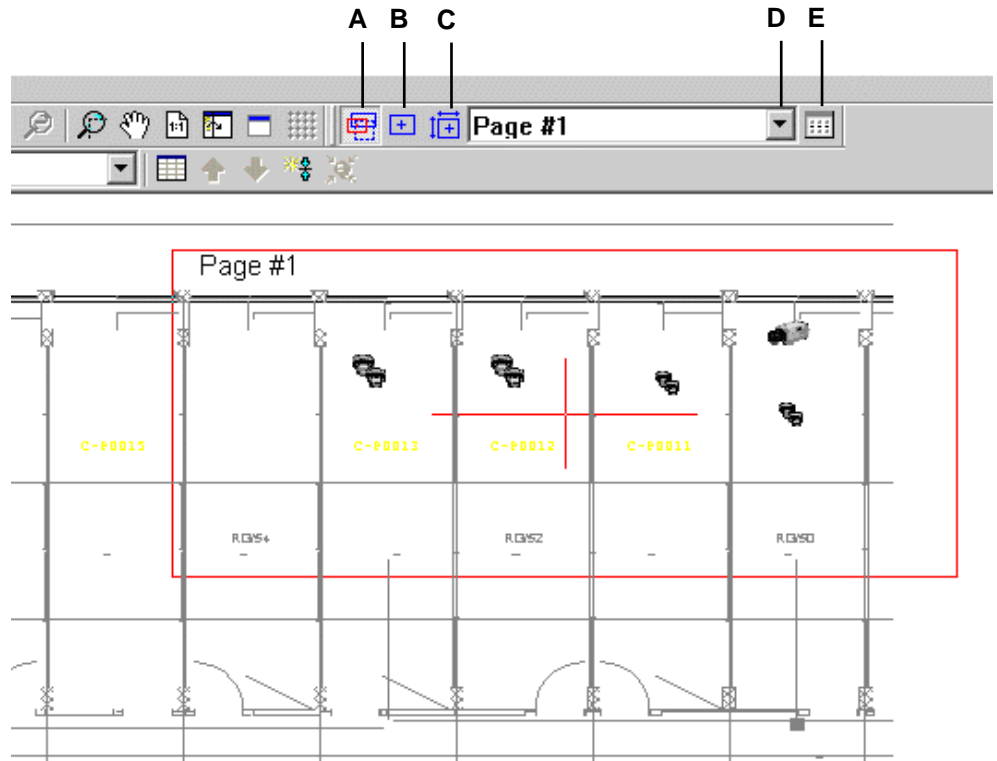

Fig. 24 Manually creating pages
2. Click the Toggle page icon to open page mode. (See “A” in Fig. 24.)
Select the Create icon (see “B” and “C” in Fig. 24.), and then select an area on the page by dragging the red rectangle.
1. Click the Open list icon to display the list of configured pages. (See “E” in Fig. 24.).